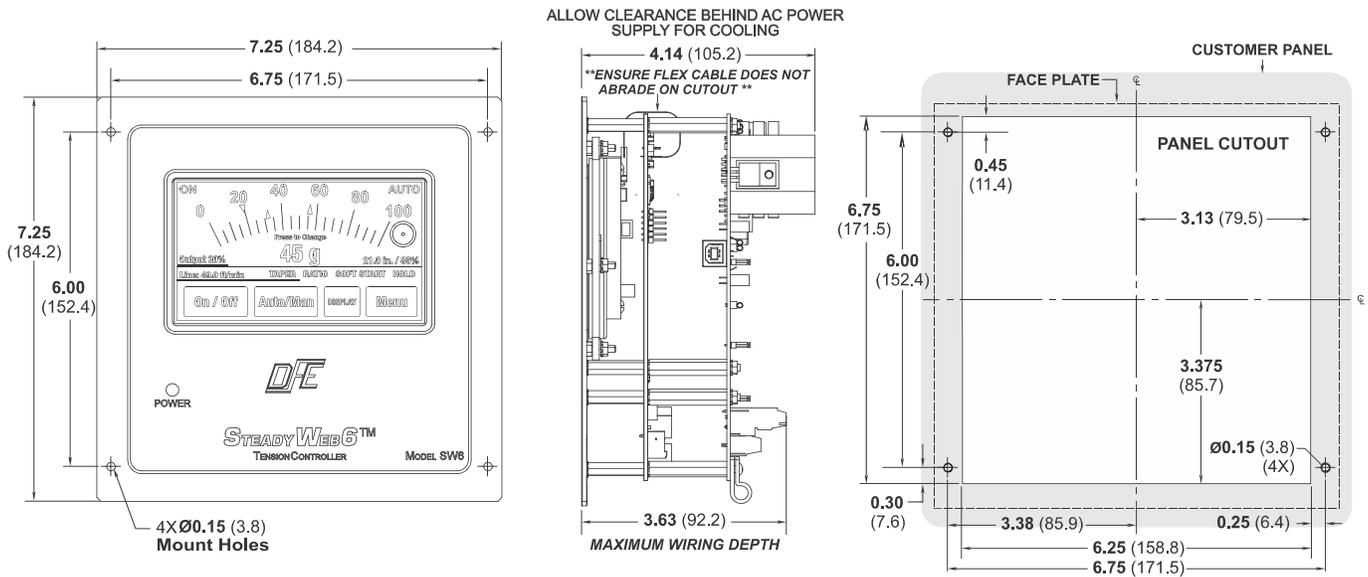

Figure 4 - PANEL VERSION DIMENSIONS and VIEWS
① **IMPORTANT:** Ensure flex cable does not abrade on cutout! See Fig. 4 on page 8.
For panel mount units, drill four holes and cut an opening centered in the holes (see Section 2.1, Fig. 4-Panel Mount Dimensions and Views). Mount your Panel style controller in the hole using four M3 (#4) nuts and screws.